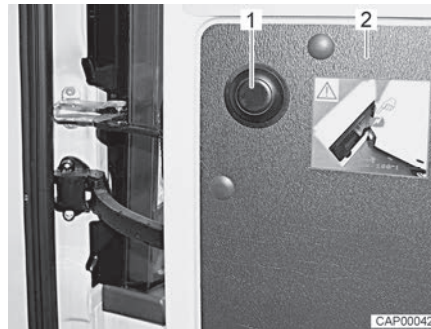

Fig. 26 Push button to release the limitation
- Open the rear door (Fig. 26,2) as far as it will go.
- Press the push button (Fig. 26,1), hold rear door and continue opening carefully.